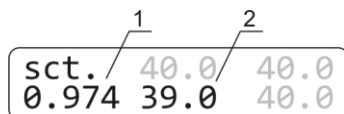

Figure 5. Changing the coefficient:
- 6.4.6. Using the ▲ and ▼ T, °C keys, change the calibration coefficient (fig. 5/1) so that the new temperature value (fig. 5/2) corresponds to the independent sensor temperature. In our example, the calibration coefficient will be 0.974.